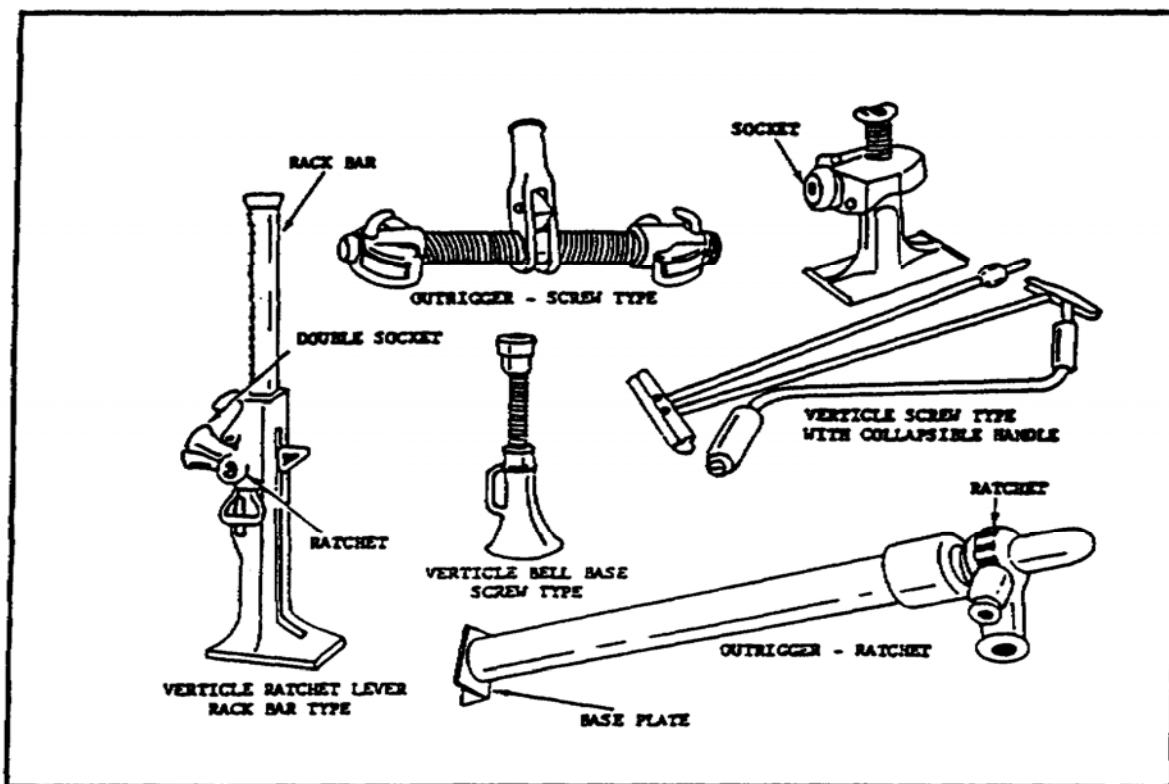

FIGURE 48. MECHANICAL JACKS.
(1) *Screw Jacks.* The vertical screw jack (figure 48) is operated by hand through a collapsible handle which is inserted in a socket. The screw moves up or down, depending on the direction of rotation in which the handle is turned. Some screw jacks are equipped with a ratchet for automatic lowering. Mechanical screw jacks are issued in several capacities having different contracted and extended heights. Another type of screw jack is called an outrigger jack. It is equipped with end fittings which permit pulling parts together or pushing them apart and has a capacity of 10 tons.
(2) *Ratchet Lever Jacks.* A vertical ratchet lever jack (figure 48) has a rack bar that is raised or lowered through a ratchet lever. Some of these jacks are equipped with a double socket; one for lowering, one for raising. Others have one socket as well as an automatic lowering feature. An outrigger ratchet jack is ratchet-operated and has an extra reverse ratchet handle and a base plate.